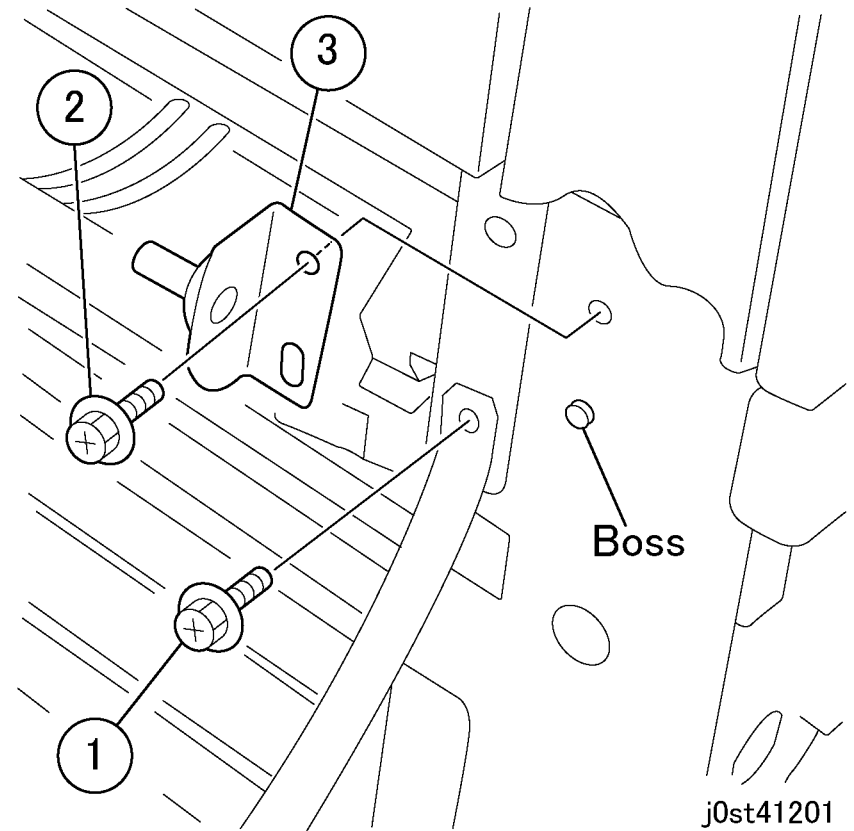

Figure 3 Removing the bracket (j0st41201)
5. Remove the bracket. (Figure 3)